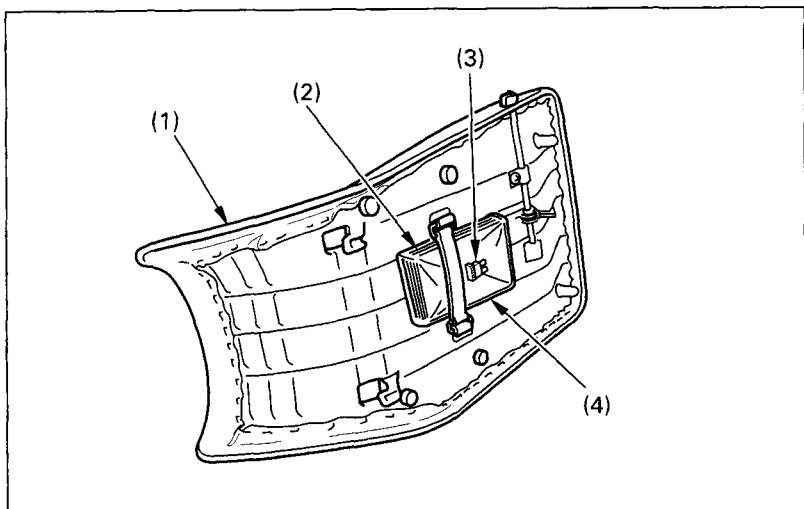

Fig. 2-31
The owner's manual storage area (Fig. 2-31) is located under the seat (1).